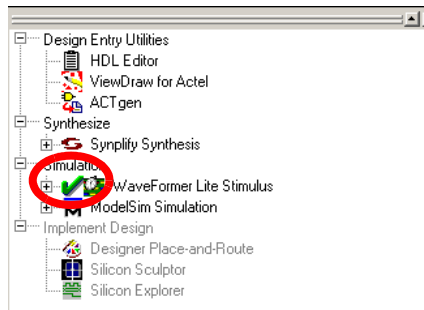

Figure 3-19. Check Mark in Waveformer Lite
3. Click OK. A check mark appears next to WaveFormer Lite in the Process window to notify you that there is a testbench file associated, as shown in Figure 3-19.